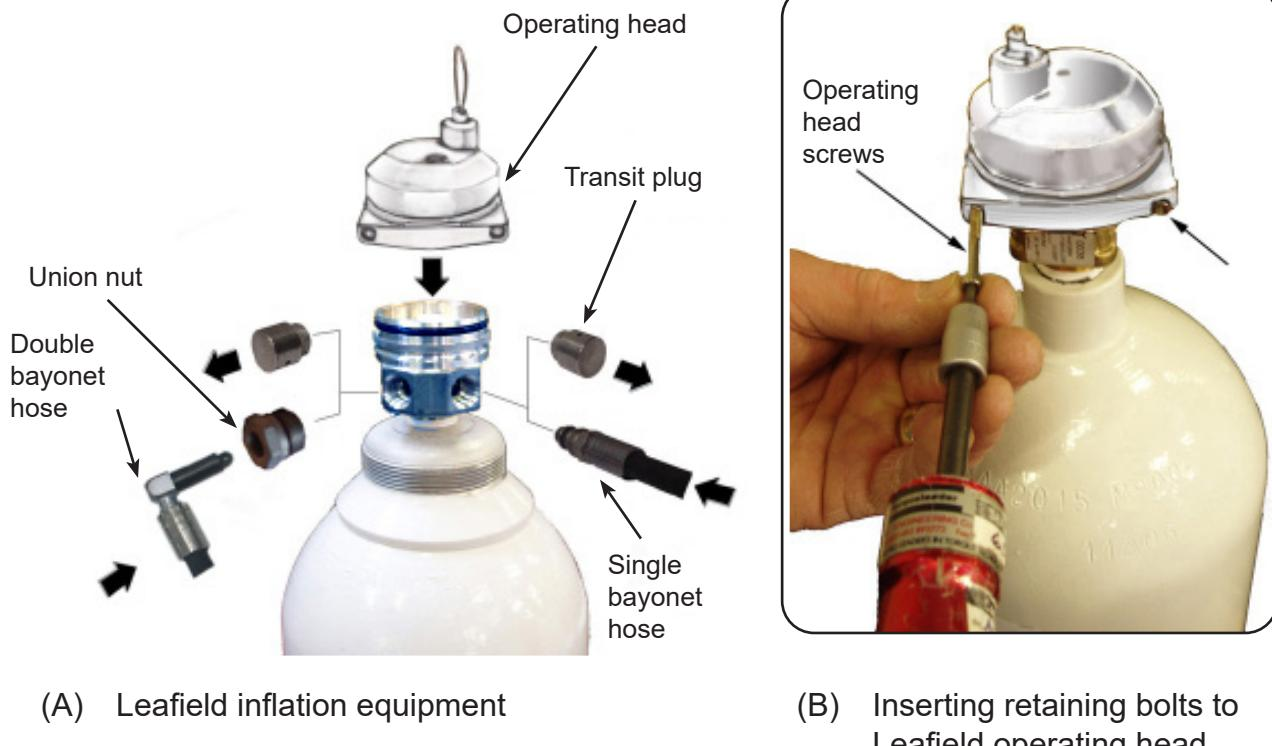

FIGURE 843
Refer to FIGURE 843.
- 6.7 Check inflation hoses for damage and replace if necessary. Refer to **Appendix 14** for guidance on inspection the inflation hose. Connect each inflation hose. Refer to FIGURE 843. Torque the hose connections as stated in Chapter 1, TABLE 101.